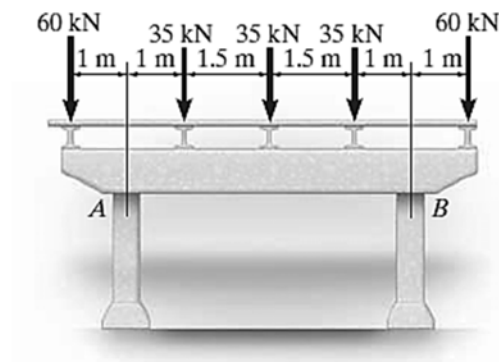

Fig. 2
2. A reinforced concrete pier is used to support the stringers for a bridge deck. Draw the shear and moment diagrams for the pier when it is subjected to the stringer loads shown. Assume the columns at  $A$  and  $B$  exert only vertical reactions on the pier. (Fig. 2)